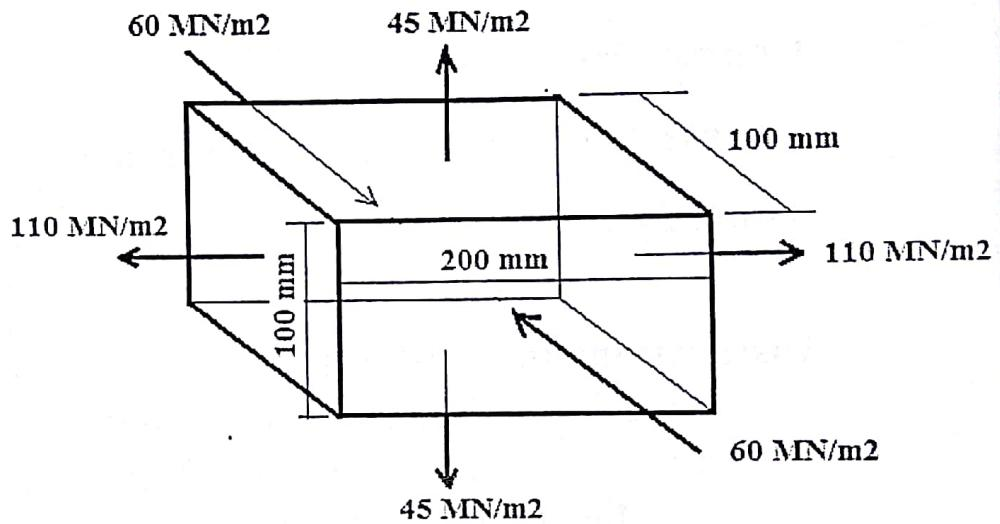

Figure 1
- c) A rectangular block of steel 100 mm x 100 mm x 200 mm long is subjected stresses 110 MN/m² (tensile), 60 MN/m² (compressive) and 45 MN/m² (tensile) as shown in figure 1. If Poisson's ratio is 1/3 and E = 213 GN/m² Calculate the strain and the change in length in all the three directions. Also calculate the change in volume of the bar.